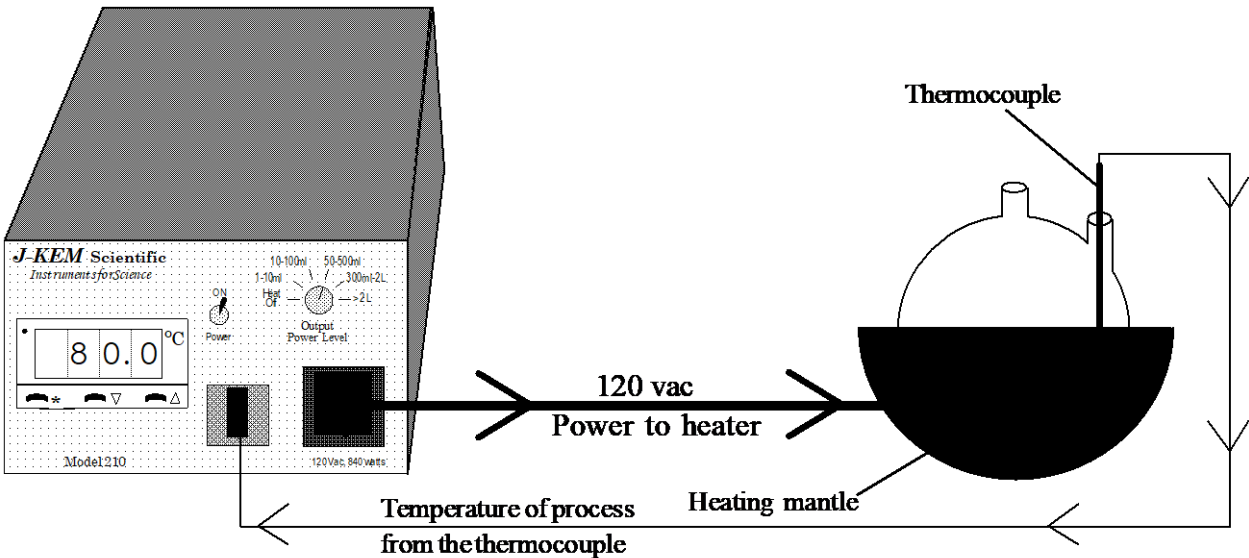

Figure 2
3.8 Do's and Don'ts When Using Your Controller. The controller, heater and thermocouple form a closed loop feedback system (see Fig. 2 in Section 4.1). When the controller is connected to a heater, the feedback loop should not be broken at any point.